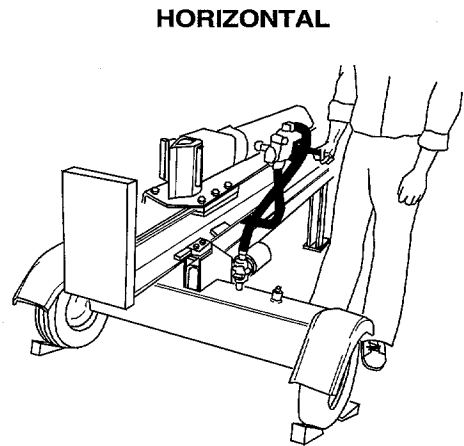

Figure 11
- Stand behind the reservoir tank to operate the control handle and to stabilize the log. See Figure 11.